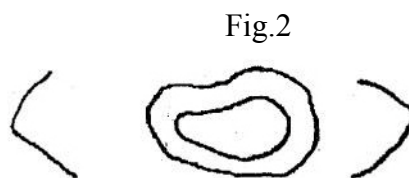

Fig.2
c) Multiple point measurements within a circle of $\phi = 1.18''$ (30mm). This method involves performing a number of measurements within a circle having a maximum diameter of about 1.18'' (30mm)(fig.2). Take the minimum indicated value as the thickness of the material.